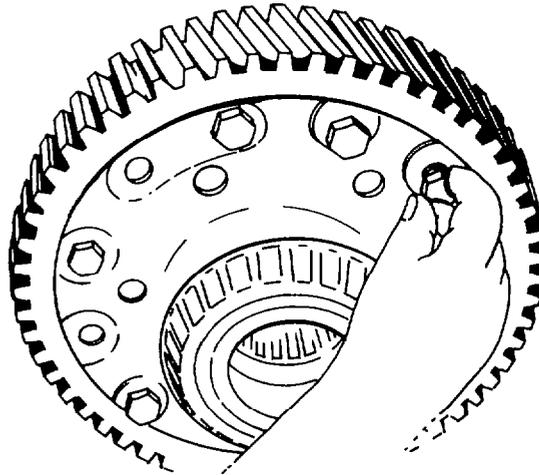

Fig. 333 — Installing Bull Gear and Retaining Bolts
- i. Align and install the bull gear using the match marks also made at disassembly. Install and hand tighten the retaining bolts (see fig. 333).